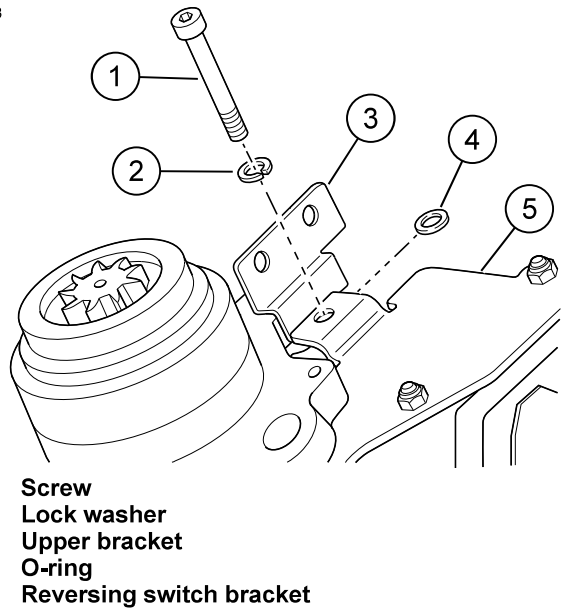
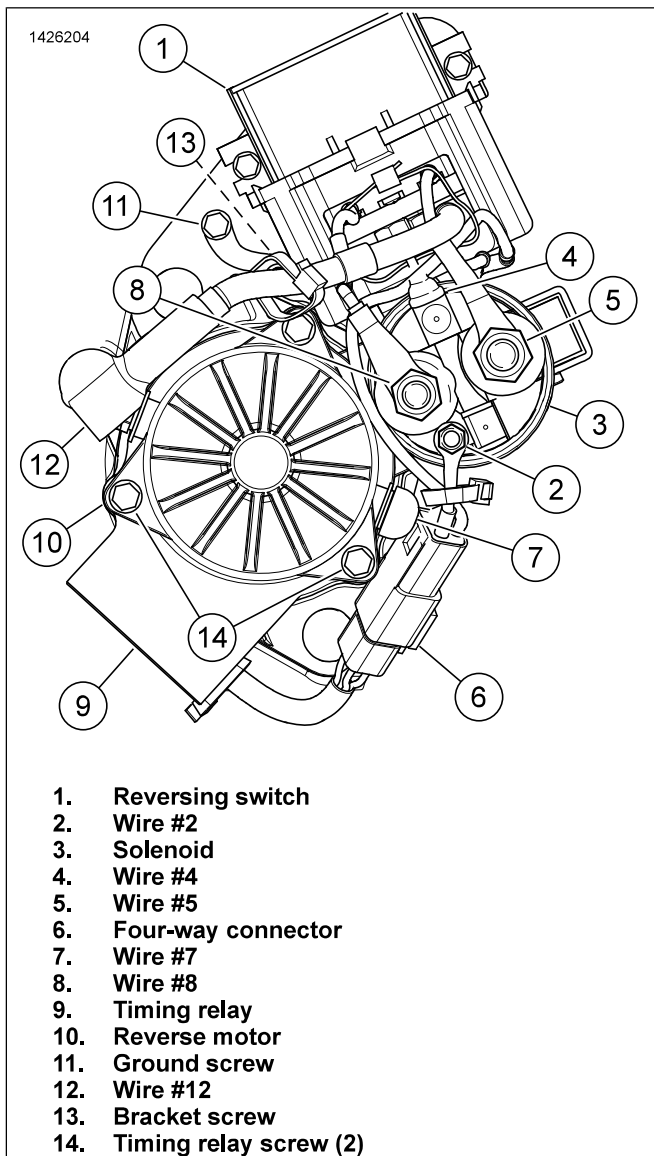

Figure 40. Contactor Z Upper Bracket
Figure 41. Reverse Motor Electrical Kit Connections
- a. Remove mounting screws (1) while holding nuts (6).
- c. Remove terminal screws (5) securing wire #11 (4) and wire #1 (3) from Contactor Z.
- d. Remove Contactor Z (7).
5. See Figure 41. Disconnect wires from reversing switch to solenoid.
- a. Remove wire #8 (8) nut from solenoid (3).
- b. Remove wire #5 (5) nut from solenoid.
- b. Remove wire #7 (7) nut from reverse motor (10).
- c. Remove wire #12 (12) nut from reverse motor.
7. Remove wire #2 (2) nut from solenoid.
8. Disconnect four-way connector (6).
- a. Remove heat shrink from wire #4 (4) screw.
10. See Figure 40. Remove reversing switch bracket.
- a. Remove screw (1).
- b. Verify O-ring (4) behind upper bracket (3) remained in place.
- c. See Figure 41. Remove bracket screw (13).
11. See Figure 41. Remove timing relay.
- a. Disconnect four-way connector (6).
- b. Remove timing relay screws (14).
8. See Figure 40. Position upper bracket (3) between o-ring (4) and reversing switch bracket (5).
9. Install screw (1) with lockwasher (2).
1. See Figure 41. Install bracket screw (13). Tighten.